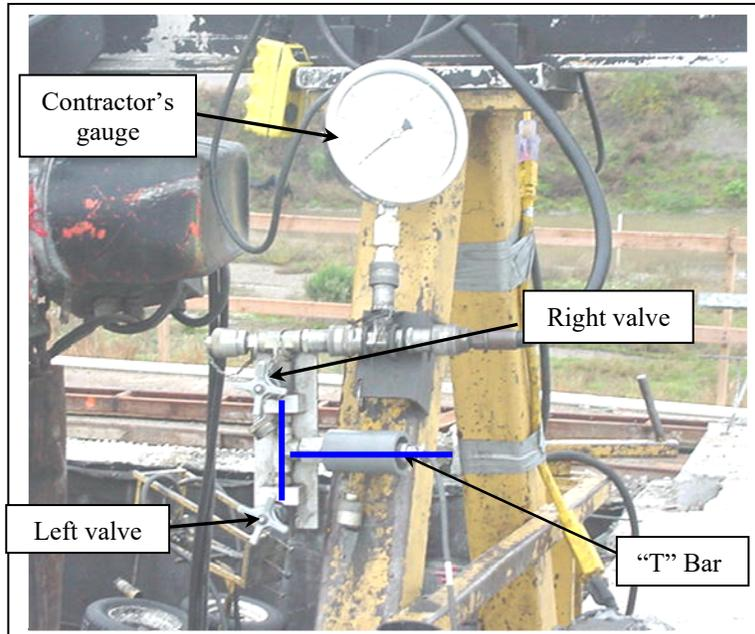

Figure B-7.
9. Make sure the stressing contractor closes the left valve and open the right valve once the “T” Bar is connected to the Contractor’s gauge (See Figure B-7).